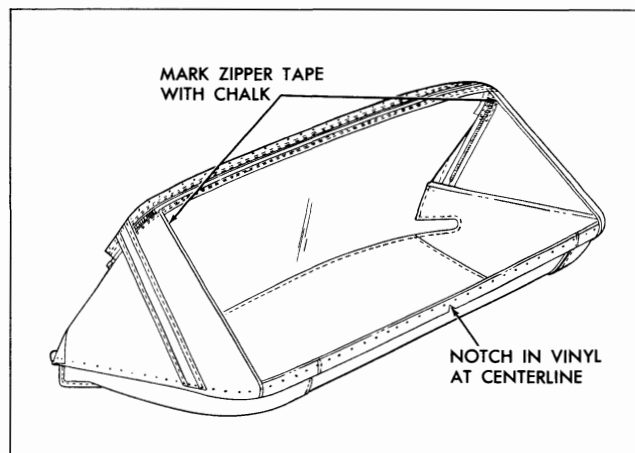

Fig. 21-39 Marking Zipper Tape
14. Using chalk or similar material, mark zipper tape at upper edge of vinyl (Fig. 21-39).
*NOTE: Notch in back curtain vinyl at lower edge indicates centerline of back curtain assembly. (See Fig. 21-39). In addition, back curtain lower edge should extend approximately 1/2" below lower edge of trim sticks.*
6. Tack curtain to rear and rear quarter trim sticks. Turn forward edge of material rearward to form a water barrier (Fig. 21-39).